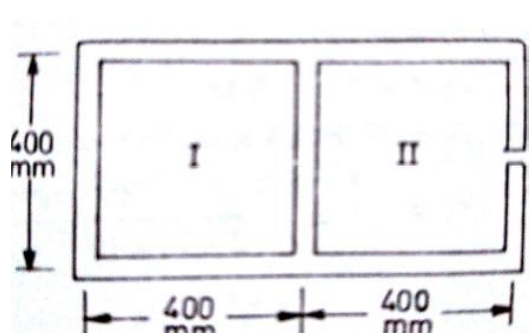

Fig.5
5. A) A thin walled cellular section shown in fig.5, is subjected to a torque of 50N-m, if $G = 100 \text{ Gpa}$ calculate i) Sharing of torques by two cells. ii) Maximum shear stress in each cell, iii) angular twist per unit length. The thickness of all walls is 2mm. 10M